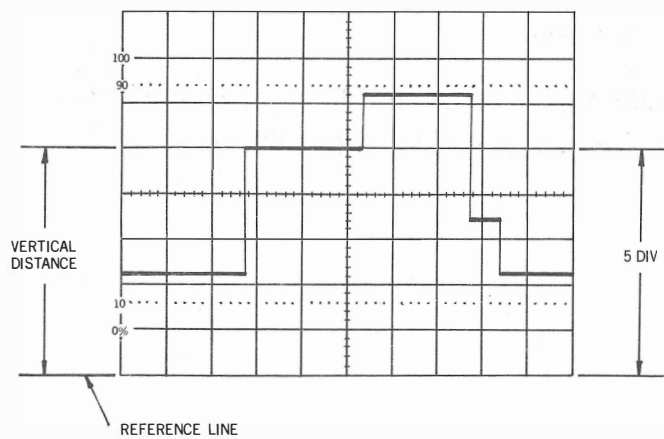

FIGURE 2-8. INSTANTANEOUS VOLTAGE MEASUREMENTS
2. Adjust the TIME/DIV switch (23) for one complete cycle of waveform and set the VOLTS/DIV switch for a trace amplitude of 4 to 6 divisions (see Figure 2-8)
3. Flip the AC/GND/DC switch (11) or (12) to GND.
4. Use the appropriate Vertical POSITION control (19) or (20) to set the baseline on the central horizontal graticule line. However, if you know the signal voltage is wholly positive, use the bottommost graticule line. If you know the signal voltage is wholly negative, use the uppermost graticule line.
6. Use the Horizontal POSITION control (26) to position any point of interest on the central vertical graticule line. This line has additional calibration marks equal to 0.2 major division each. The voltage relative to ground at any point selected is equal to the number of divisions from that point to the ground-reference line multiplied by the VOLTS/DIV setting. In the example used for Figure 2-8, the voltage for a 0.5V/div scale is 2.5V ($5.0 \text{ div} \times .5\text{V}$).